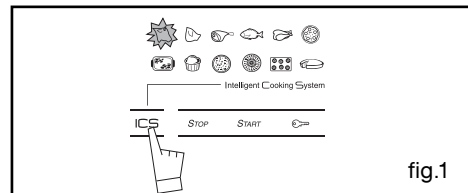

fig.1
- Press the “ICS” button (fig.1).